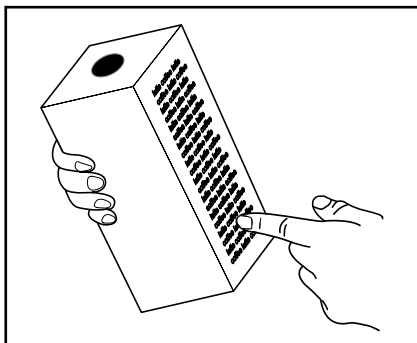

Fig. 1
- Store the product packs according to the description on the packaging. (Fig. 1)